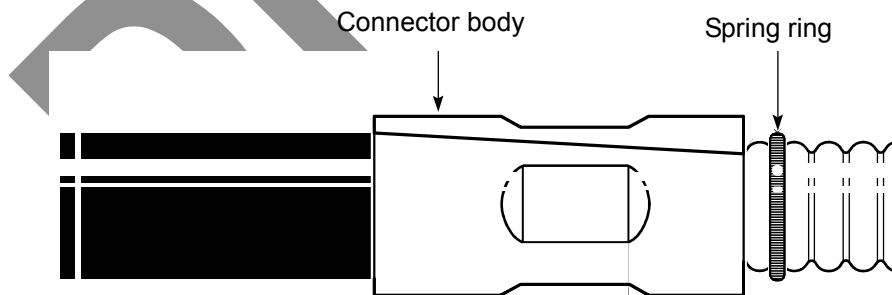

Figure 71 – Installing the connector body and spring ring
4. Install the connector body on the cable by sliding it over the cable end until it is stopped by the O-ring, as shown in Figure 71. Install the spring ring on the first corrugation valley after the cable body, as shown in Figure 71.